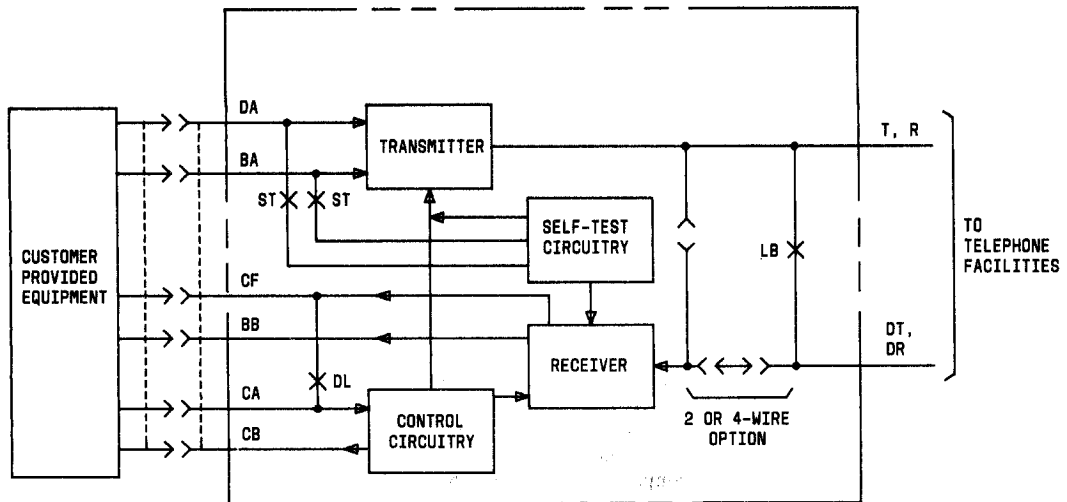

Fig. 4—DS 201C-L1D—Simplified Block Diagram
**3.01** This part contains information on DS 201C-L1D transmitter, receiver, test modes, interface leads, and options. Refer to Fig. 4 for a simplified block diagram of DS 201C-L1D.